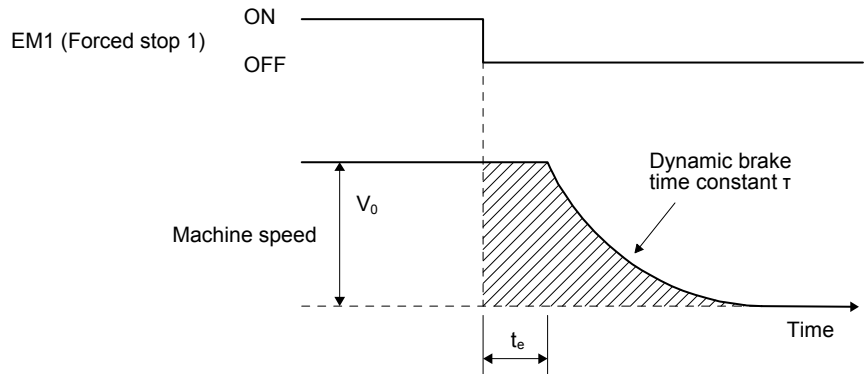

Fig. 18.2 Dynamic brake operation diagram
Fig. 18.2 shows the pattern in which the servo motor comes to a stop when the dynamic brake is operated. Use equation (18.1) to calculate an approximate coasting distance to a stop. The dynamic brake time constant τ varies with the servo motor and machine operation speeds. (Refer to (1) (b) in this section.)